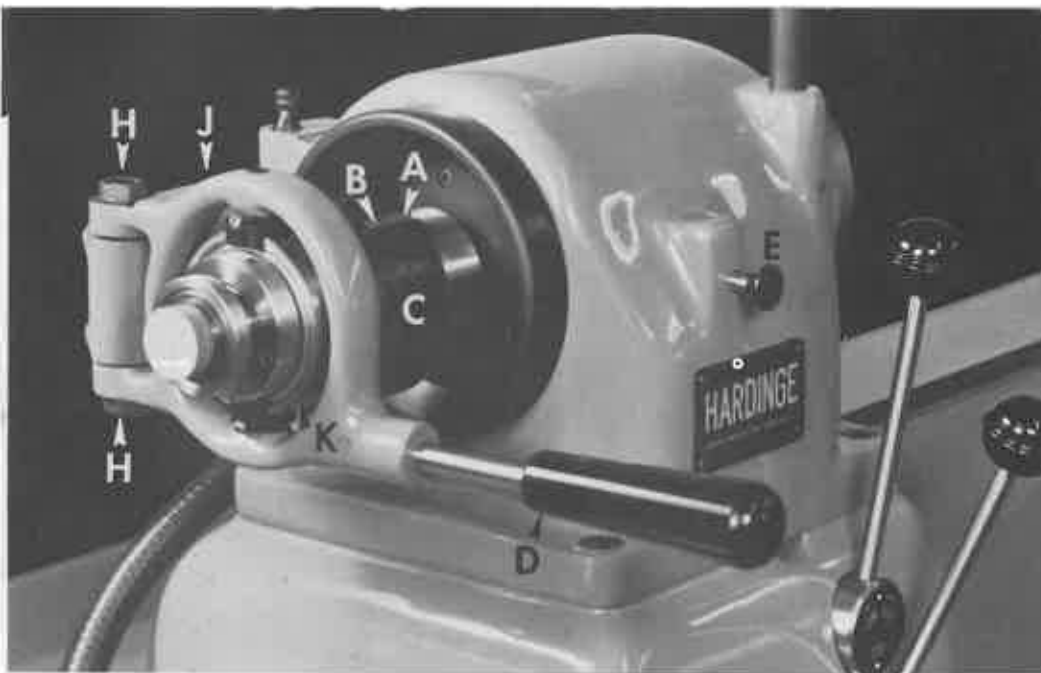

Figure 20
2. Open collet closer latch "A", Figure 20, by pressing down at point "B".
5. Move lever "D", Figure 20, to the extreme left or closed
position. Push in lock pin "E", Figure 20. To engage lock pin, turn spindle by hand until pin enters notch to lock. Turn shell guard "C" toward operator until it is drawn up as far as it will go by hand.
The two adjusting screws and lock nuts "H", Figure 20, are factory adjusted to a point where there is no pressure on bearing "K".
Spindle lock pin "E", Figure 20, is used to hold the headstock spindle stationary when applying or removing spindle nose attachments, adjusting collet closer or when applying and removing work from fixtures or threaded arbors. To engage lock pin, turn spindle by hand (see instructions for obtaining free spindle Page 6) and hold pin in until it engages in one of the notches of the spindle assembly. **THE LOCK PIN is electrically interlocked with the main drive motor and MUST BE WITHDRAWN BEFORE MACHINE WILL START.**
**TO APPLY** spindle nose tooling, engage lock pin "E", Figure 20. Align key "A", Figure 29, with bayonet slot "B", Figure 28, and slide tooling on spindle nose. Turn clockwise or counterclockwise to lock in place. Once securely drawn up, the spindle nose tooling is actually driven by the locking action of the tapered surfaces. Final tightening should be done with a standard pin type spanner wrench. (Use Williams or Armstrong spanner wrench No. 460.) **DO NOT USE HAMMER AND PUNCH.**
When coolant is used while machining a part having a through hole, apply a thermos bottle cork to the end of the collet closer tube as shown, Figure 20. This will prevent coolant from running out end of spindle.